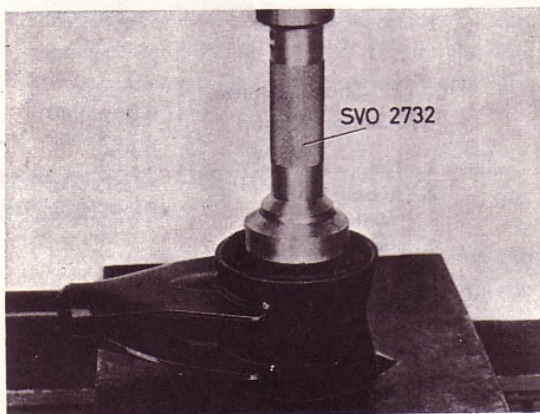

Fig. 14.
3. Press out the rear bush with drift SVO 2732 (see Fig. 14). The bush is pressed in with the same tool. For a late prod. type rubber bush with a "waist", the rubber should be coated with oil before pressing in the bush.